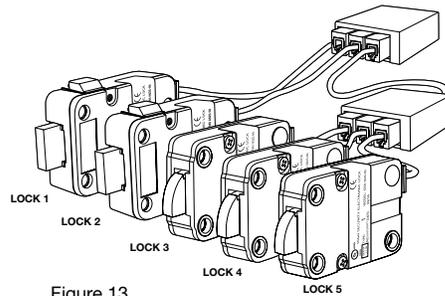

Figure 13
3. Repeat these steps for all locks enrolled in the system (Figure 13).